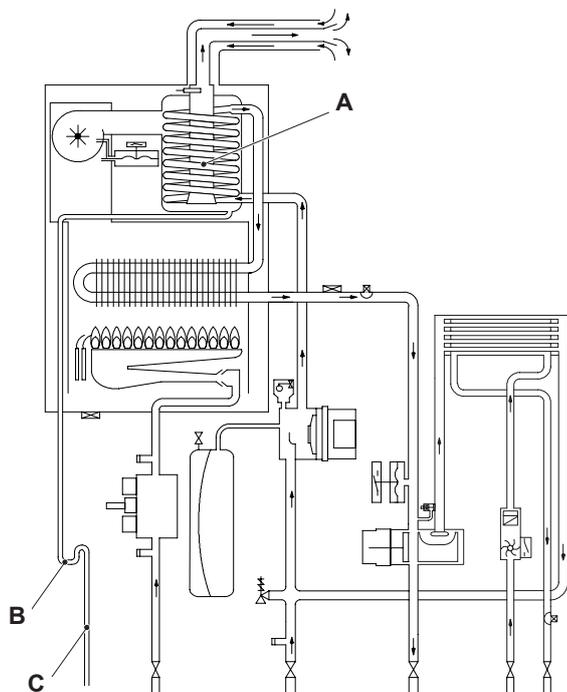
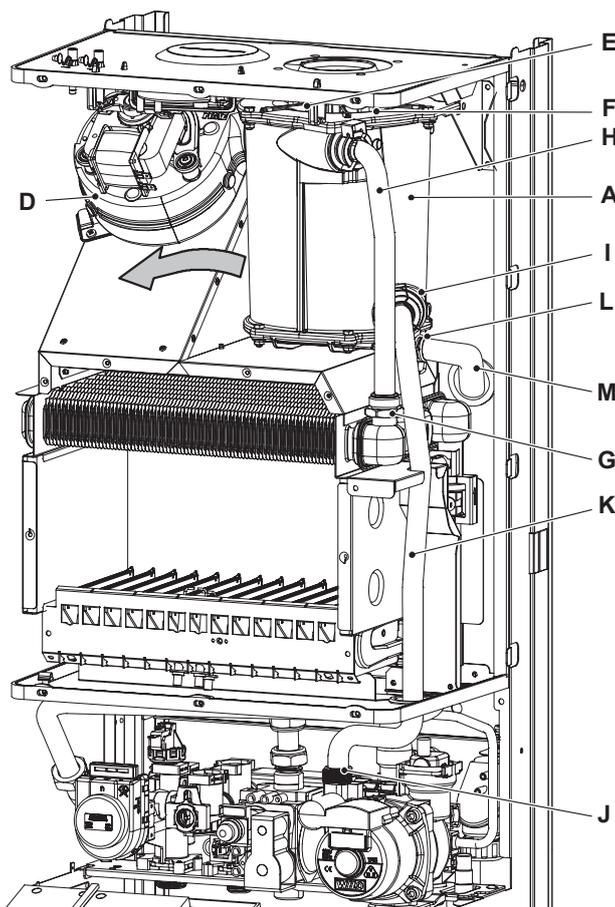

Figure 6.1
Figure 6.2
The return water flows through the condensing heat exchanger A in Figure 6.1 and Figure 6.2.
- 3 Remove the fan D in Figure 6.2 (see section "Removal of the Fan" page 39).